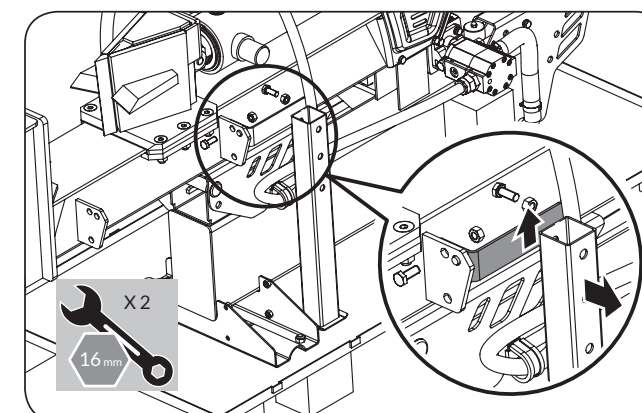

Figure 2b
3. Disassemble the support leg from the unit. (Remove the bolts and nuts, see **Figure 2b**.)